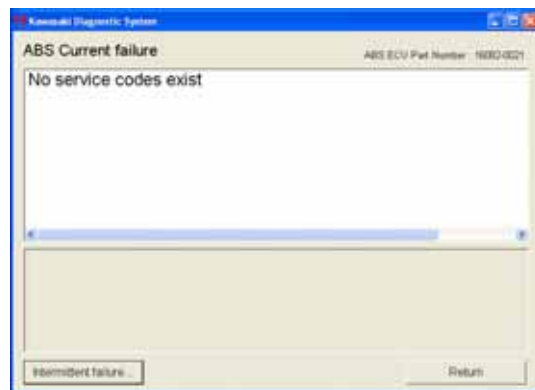

Fig. 7-8 Current Failure – No Code
- o Next the **ABS Current Failure** screen appears. (Fig. 7-8.)